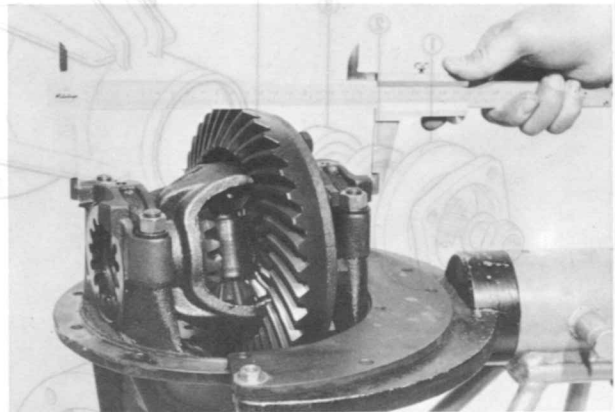

Fig. 9-25 Adjusting bearing preload (case spread)
3. The preload on the differential bearings is obtained by tightening the adjusters. Tighten the adjusters until the distance between both pilot sections on the bearing caps becomes 204.428 ~ 204.5 mm (8.0485 ~ 8.0513 in), as shown in Fig. 9-25.